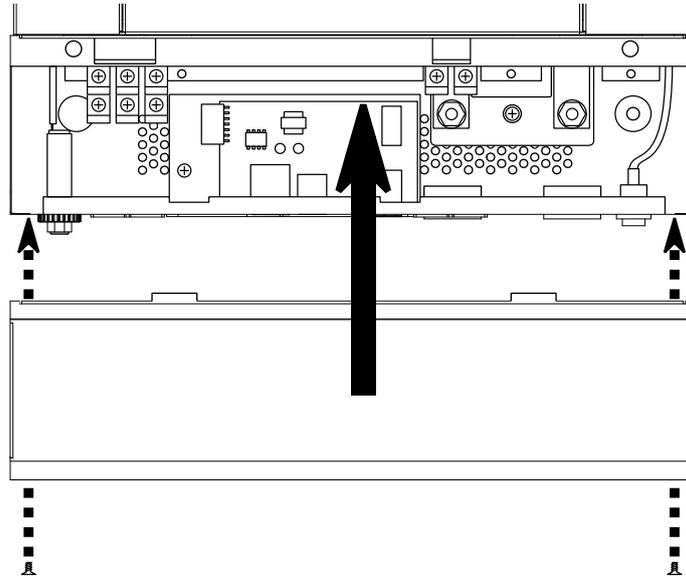

Figure 8: Closing the bottom cover
13. Re-assemble the bottom cover as in *Fig. 8*, the reverse of step 1. You have now completed the installation of the parallel board into the Solarix PLI 5000-48.